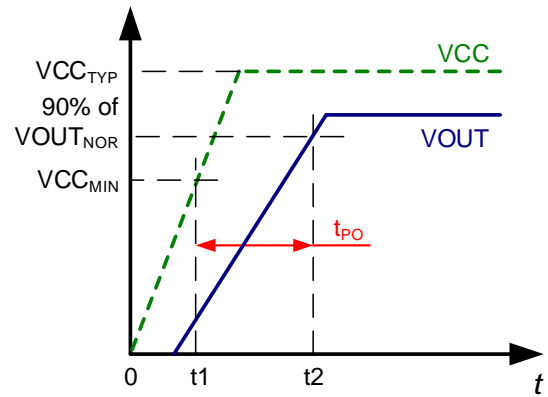

Figure 5: Power On Time (t_{PO})
2. t_2 : V_{OUT} settles within ±10% of its steady state value under an applied primary current (see Figure 5).